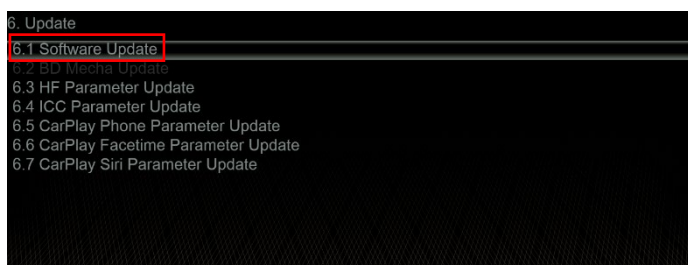

Figure 10
19. Select '6.1 Software Update' (refer to Figure 10).